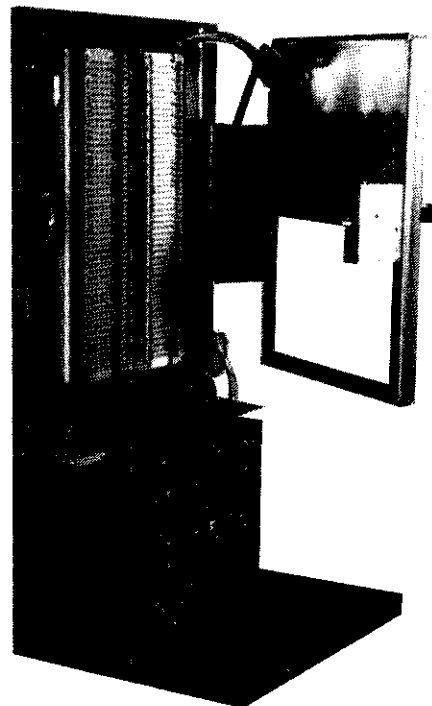

Figure 1: 501A Key Service Unit
2.03 The 501A KSU is designed for wall or floor mounting and can be ordered with or without a power supply or dial intercom. The KSU measures approximately 14 inches wide, and 11 inches deep. It comes equipped with a fiberglass cover. The floor-mounting model with the cover removed is shown in Figure 1.